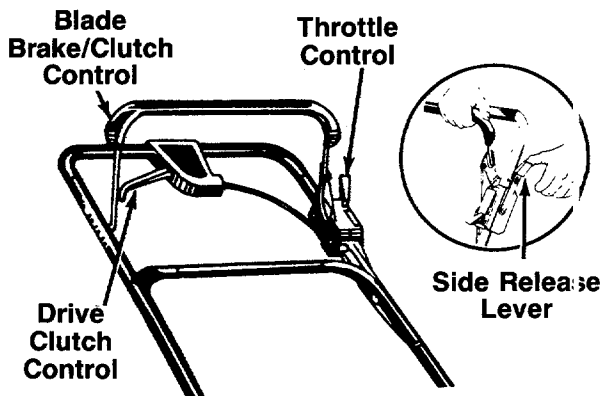

FIGURE 15.
The throttle is located on the left side of handle. It controls engine speed. See figure 15.
control stops the rear wheels from driving. Release the drive clutch control to slow down when negotiating an obstacle, making a turn or stopping. See figure 15.
To engage the blade, pull the side release lever away from the unit. See figure 15. Pull the blade brake/clutch control handle against the upper handle. Release side lever.
2. To engage the blade, pull the side release lever away from the unit. Pull the blade brake/clutch control handle down against the upper handle. Release the side lever. See figure 15.